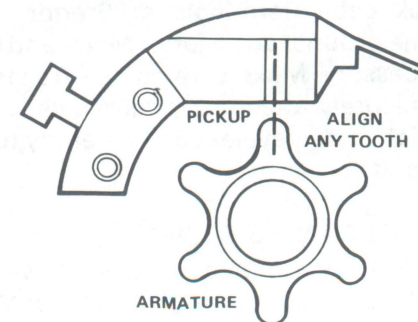

Figure 2 - Align Armature to Pickup
- Crank engine to align one tooth of armature (Figure 2) with magnet in pick-up coil (ignition OFF). Use a bump switch, or briefly touch a jumper between the R and R/LB terminals of the **Starter Relay**.